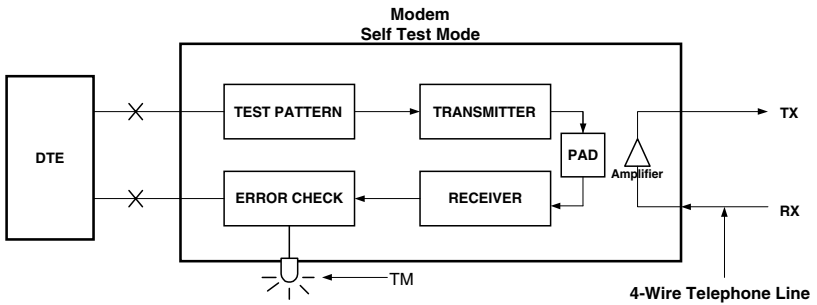

Figure 3-3. Self Test
- ❖ **ST** (Self Test) — this position inhibits the modem from transmitting and receiving data on the COMM LINE. The RS-232-C interface to the terminal is not active during this test. See Figure 3-3.